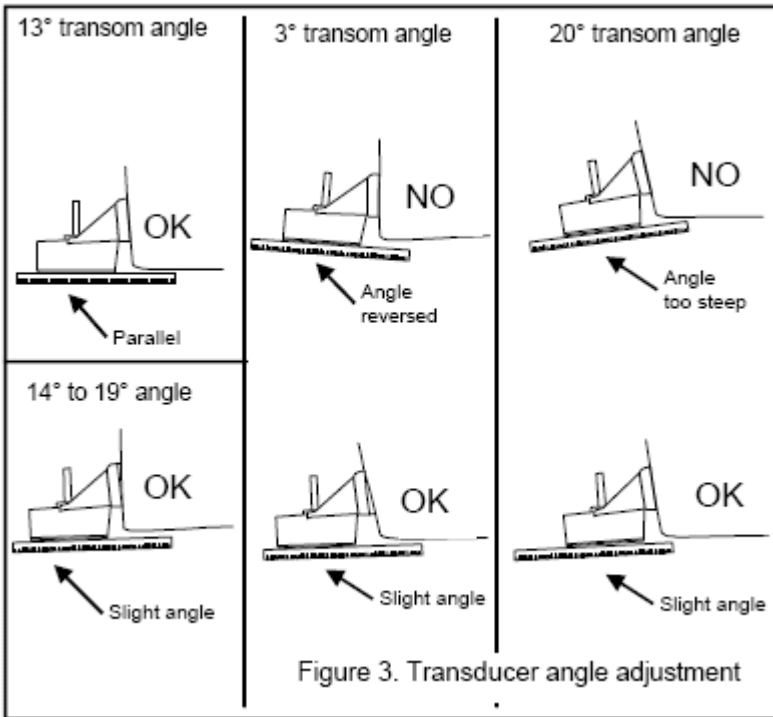

Figure 3. Transducer angle adjustment
2. Position the transducer at the selected location. Using a straight edge, sight the underside of the transducer relative to the underside of the hull. The stern of the transducer should be 1-3 mm (1/16-1/8") below the bow of the hull. To be sure your transducer is angled correctly, compare it to Figure 3. The bracket is designed for a standard 13° angle transom.